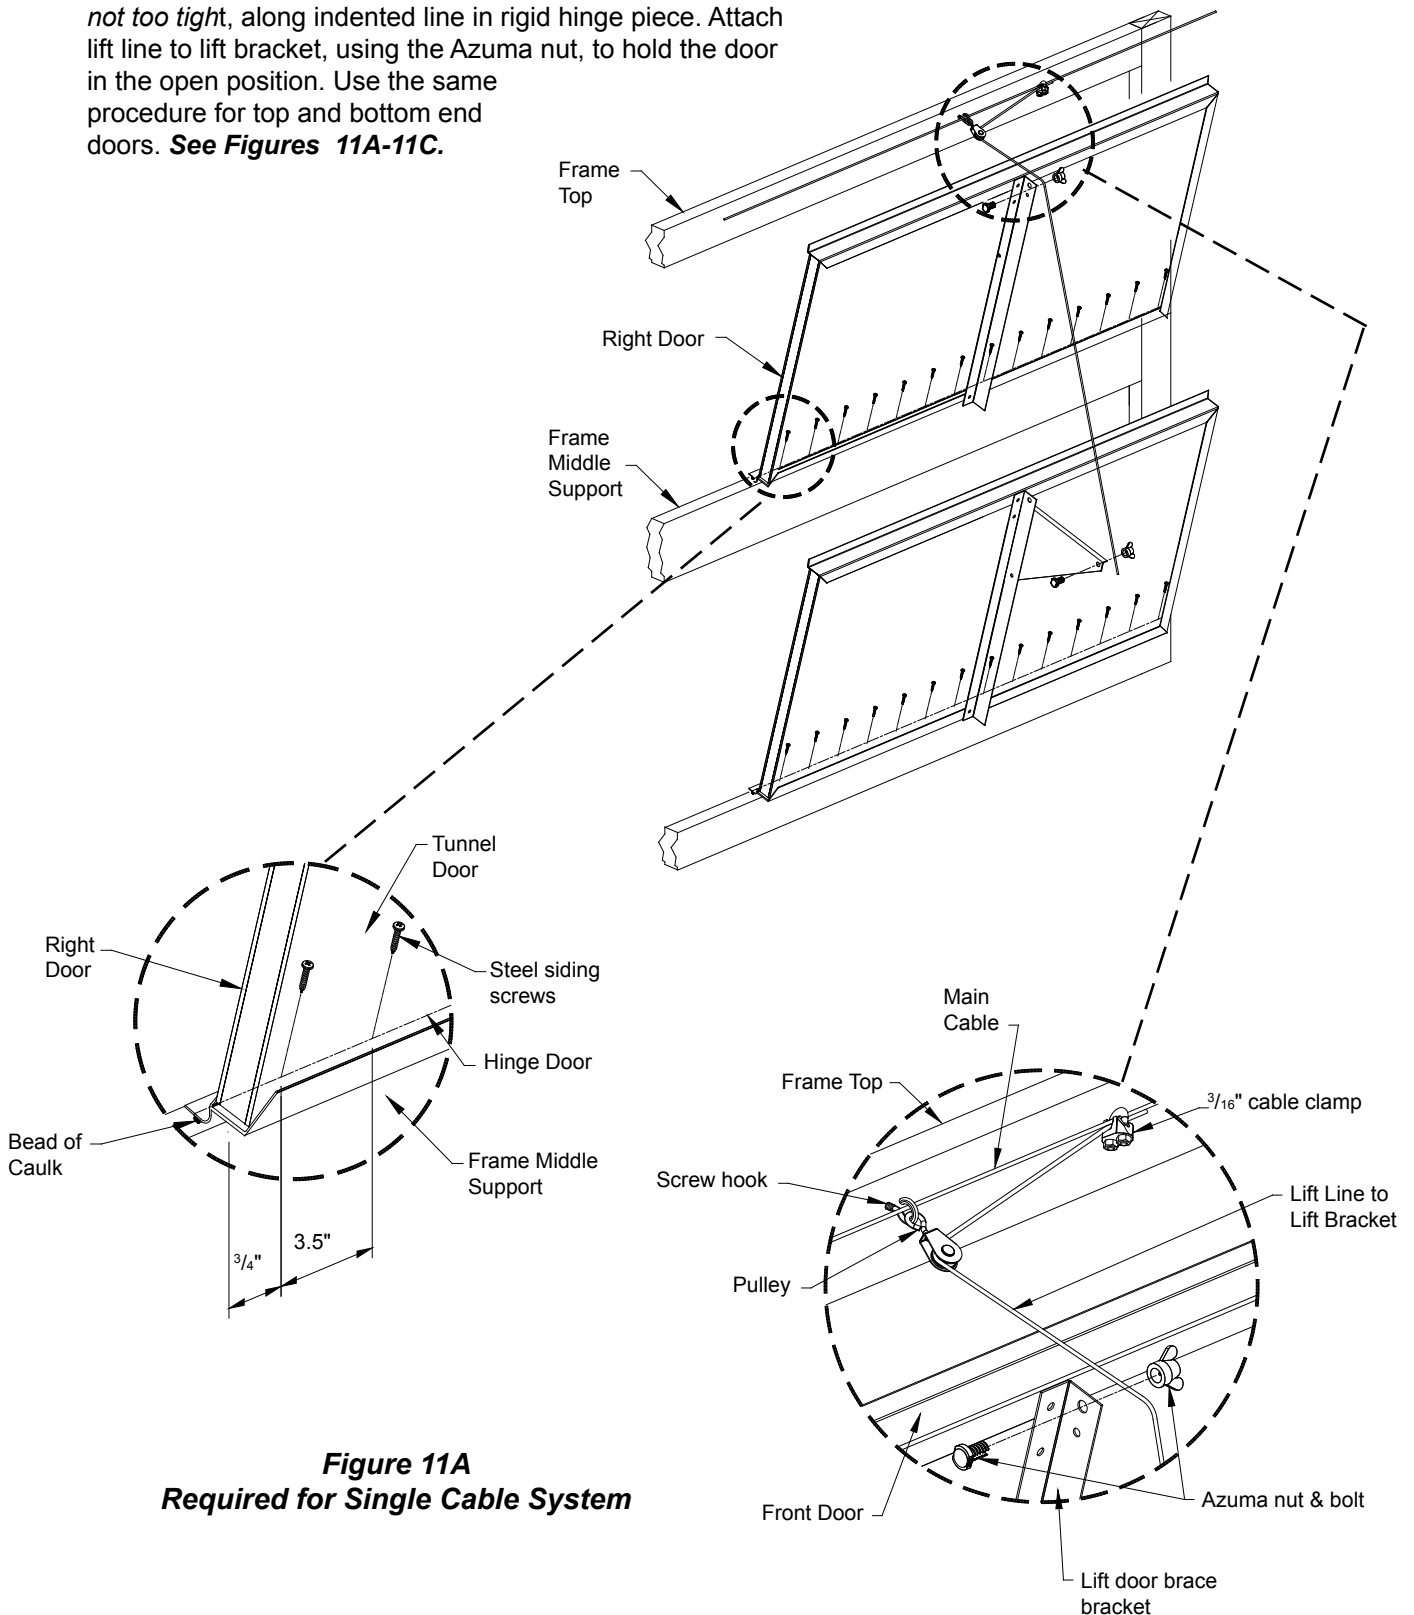
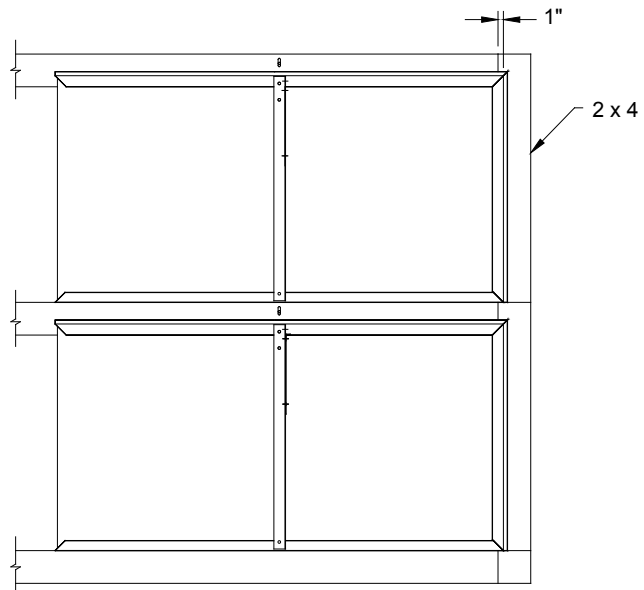

Figure 11A
Figure 11C
- 8) Always start with a right or left end door (48" long door from a completer kit). The end door seal should overlap the frame end 2x4 by 1.0" to provide a good seal **See Figure 11C**. To get the proper overlap, trim 1" off of the rigid hinge on the end of the door you started with. Apply a bead of sealant under the hinge, **See Figure 11A, 11B**. This will prevent leaks between the 2x4 and the hinge.
- 9) Place the door on the 2x4 in the closed position, overlapping the frame end by 1.0", and fasten in place with screws every 3½", *not too tight*, along indented line in rigid hinge piece. Attach lift line to lift bracket, using the Azuma nut, to hold the door in the open position. Use the same procedure for top and bottom end doors. **See Figures 11A-11C**.
10) Mid-section doors, apply a bead of sealant under hinge as shown **Figure 11A** this will prevent leaks between the 2x6 and the hinge. Allow for thermal expansion when installing the doors in a temperature less than 40°F. Leaving a 1/8" to 1/4" gap between the doors will allow for the necessary expansion.